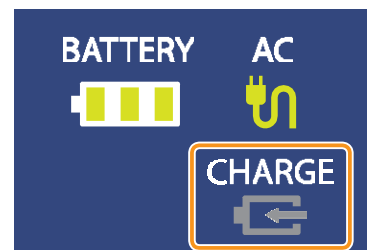

Figure 5-13
- 3. Charge the battery until the charge lamp turns off. (Figure 5-13)**